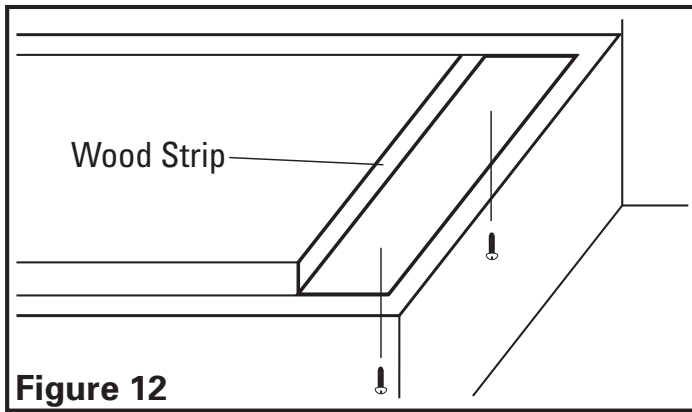

Figure 12
1. If the canopy will be installed under cabinets that have a recessed bottom, it will be necessary to install wood mounting strips (not included) so the canopy will mount properly (Figure 12).